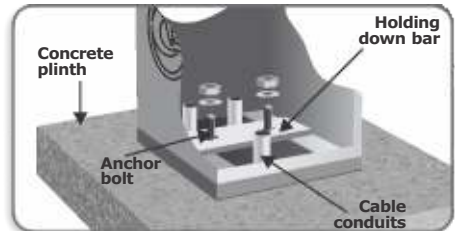

FIGURE 27. CLAMPING THE ENCLOSURE
5. Align the enclosure and make sure the two anchor bolts go through the holes on the holding down bar as shown in Figure 27.